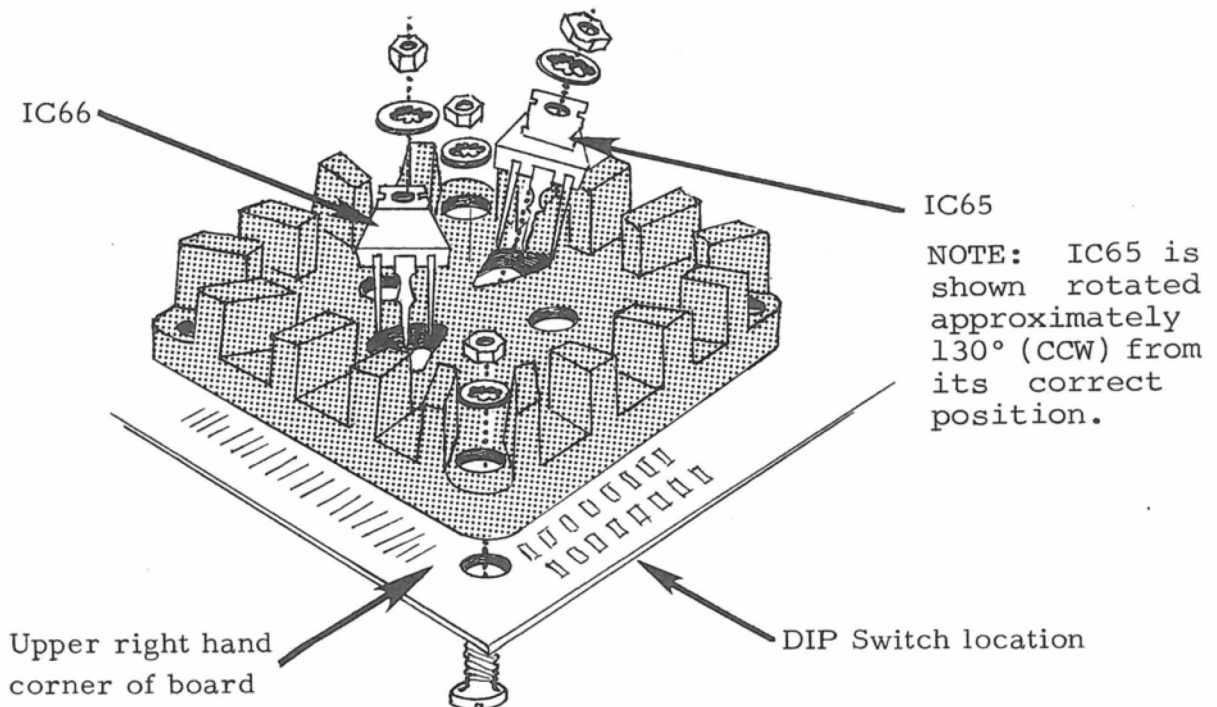

Figure 2-2. Heat sink and IC65 and IC66 installation.
✓ Step 2. Install heat sink. Position the large, black heat sink (flat side to board) over the square foil area in the upper right corner. Orient the sink so that the two triangles of mounting holes in the board are under the triangular cut-outs in the sink. Using two 6-32 screws, lockwashers and nuts, attach heat sink to board. Insert screws from back (solder) side of board. (See Figure 2-2.)
✓ Step 3. Install IC65 and IC66 (340T-5.0 or 7805UC). Position IC65 on the heat sink and observe how leads must be bent to fit the mounting holes. Note that the center lead (3) must be bent down at a point approximately 0.2 inches further from the body than the other leads. Bend leads so no contact is made with heat sink when IC65 is flat against the sink and its mounting hole is aligned with the hole in the sink. Fasten IC65 to sink using 6-32 screw, lockwasher and nut. Insert screw from back (solder) side of board. Solder and trim leads. Install IC66 the same way as you did IC65. (See Figure 2-2.)